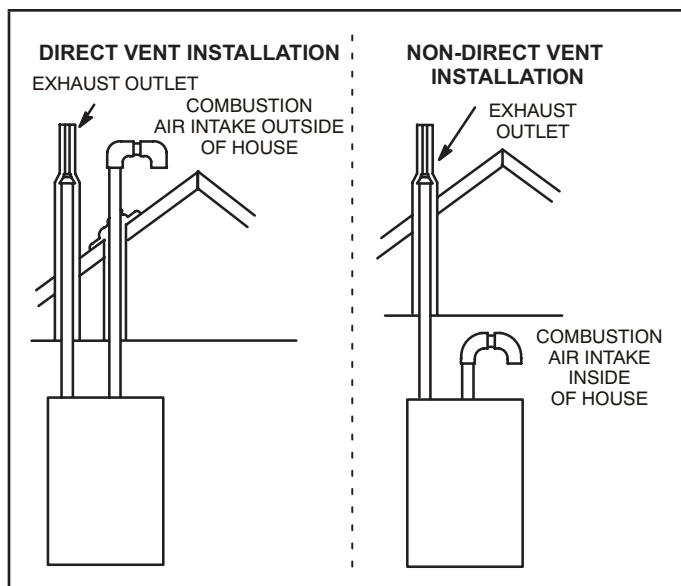
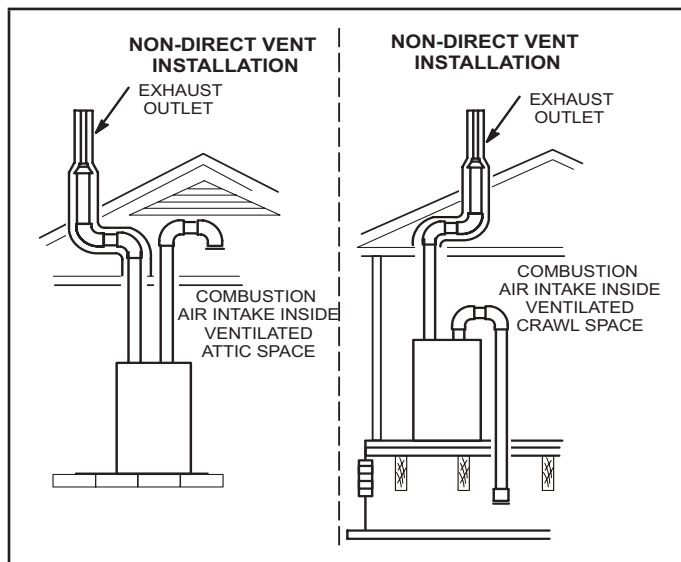

Figure 1
Figure 2
**NOTE** - In Direct Vent installations, combustion air is taken from outdoors and flue gases are discharged outdoors. In Non-Direct Vent installations, combustion air is taken from indoors or ventilated attic or crawlspace and flue gases are discharged outdoors. See Figure 1 and Figure 2.